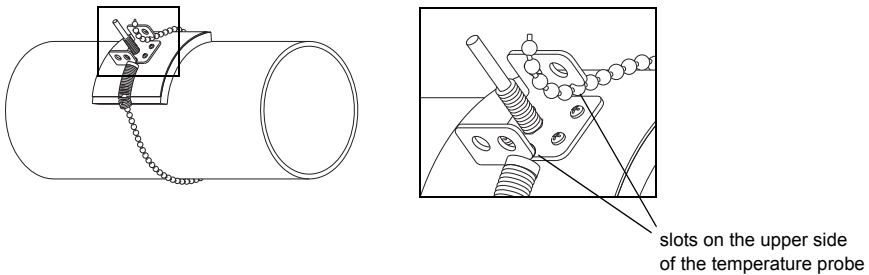

Fig. 9.7: Clasp
- Take the spring end of the ball chain and insert the last ball into one of the slots on the upper side of the temperature probe (see Fig. 9.7).